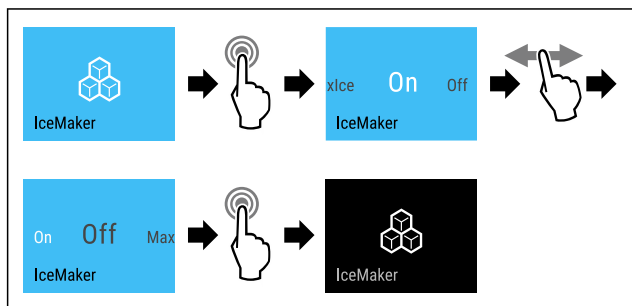

Fig. 20 Example illustration of the active IceMaker function
- ▶ Complete the steps (see Fig. 20).